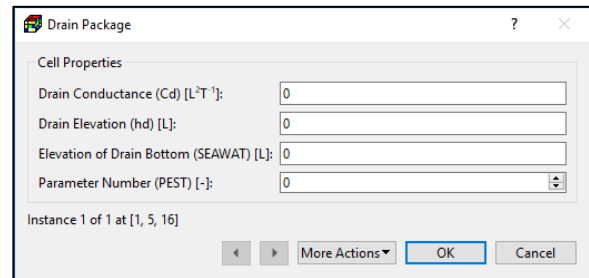

Figure 38. The Drain Package dialog box for specifying cell properties
1. Cell-by-cell input method: Figure 38 shows the dialog box for specifying one or more drain segments to a model cell. For each segment, the following properties need to be assigned.